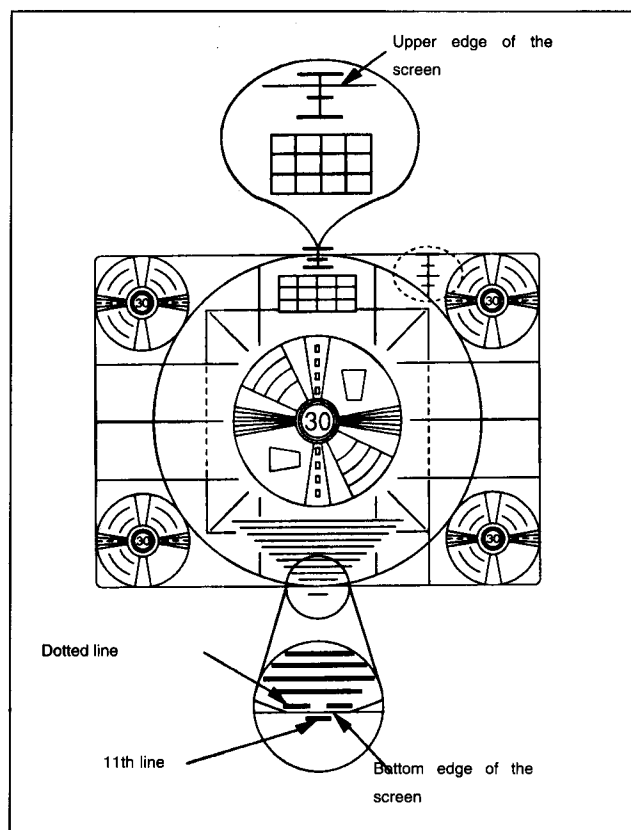

Fig. E5
- Use the arrow keys "◀" and "▶" to set the bottom and the top edge of the circular test picture according to figure E5.